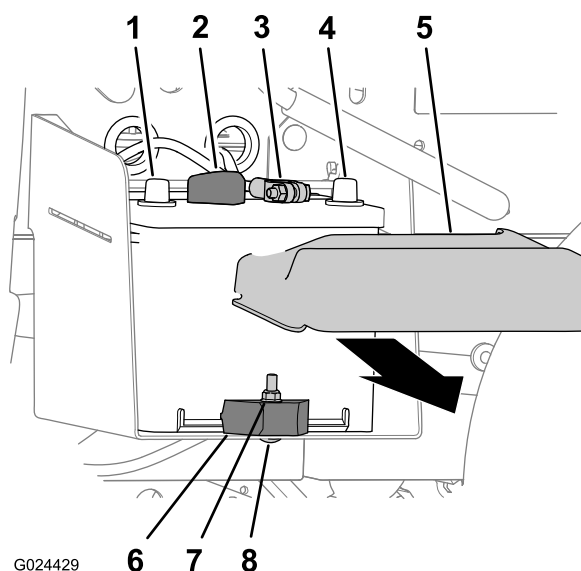

Figure 38
1. Squeeze the sides of the battery cover and remove the cover from the top of the battery (Figure 38).
2. Disconnect the positive-battery cable from the terminal of the battery (Figure 38).
3. Disconnect the negative-battery cable from the terminal of the battery (Figure 38).
2. Remove the locknut, carriage bolt, and battery clamp that secures the battery to the battery tray (Figure 38).
3. Remove the battery from the battery tray (Figure 38).
1. Align the battery to the battery tray of the machine (Figure 38).
Note: Ensure that the positive and negative posts of the battery are aligned as shown in Figure 38.
2. Secure the battery to the battery tray with the battery clamp, carriage bolt, and locknut (Figure 38).
1. Connect the positive-battery cable to the terminal of the battery (Figure 38).
2. Connect the negative-battery cable to the terminal of the battery (Figure 38).
3. Install the battery cover onto the top of the battery (Figure 38).